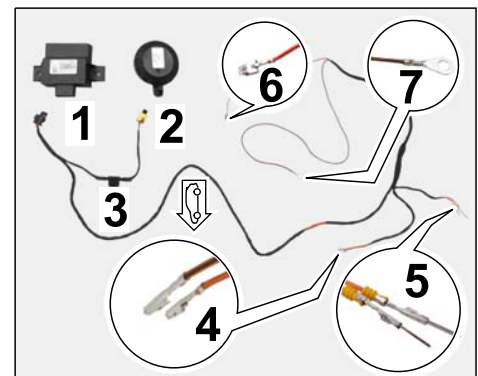

Figure 21
Wire harness connections – left-hand drive vehicles (⇒ *Figure 21*)
2.4.1 Carefully secure all contacts (⇒ *Figure 21 -4 to 7-*) to the wire harness for engine noise control unit/pulse sender using wrapping tape.